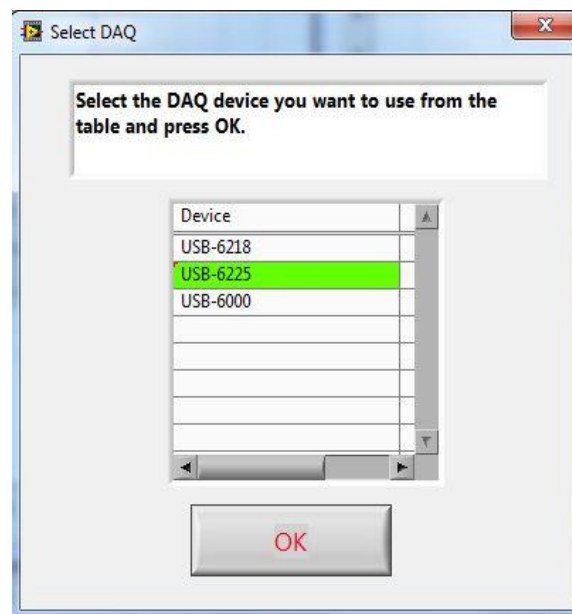

Figure 2. Prompt to select a single DAQ. Consists of a table listing all DAQs currently plugged in your PC. Click on a name inside the table and press OK.
- B. If you are using a single DAQ, the window shown in Fig. 2 appears, containing a table listing all NI DAQ's currently plugged in and recognized by your PC. Select the DAQ you wish to use by clicking on its name inside the table cell and then press OK. A small window displaying your DAQ selection, as shown in Fig. 2B, will appear. Press OK to continue. In case of using two DAQs, A primary and secondary DAQ must be chosen. This affects how the sequence of channels is assigned in *PiezoSleep*. The program first prompts you to select the primary DAQ, as shown in Fig. 3A. The primary DAQ is the one connected to the first set of cages. For example, in Fig. 3A, USB-6225 is selected as the primary DAQ, i.e. cages 1 to 80 (maximum channels supported by USB-6225) should be connected to it. After selecting the primary DAQ, the program will prompt you to select the secondary DAQ, as shown in Fig. 3B. The cages numbered 81 (in case of USB-6225) and onwards should be connected to this DAQ. If you are using two DAQs of the same kind, the primary and secondary DAQs can be identified by their serial numbers, listed next to the device name in the table.